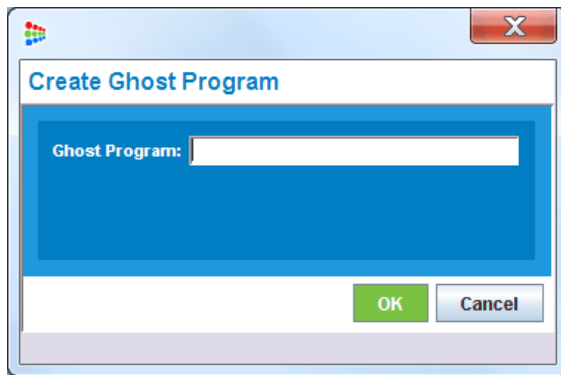

Figure 238. Create Ghost Program - DVB-CA
5. The **Create Ghost Program** screen of Figure 238 appears.